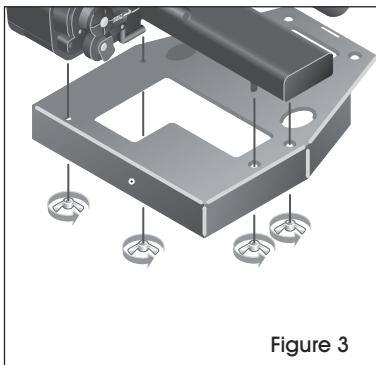

Figure 3
4. Align four rubber screws to the corresponding holes on the tray kit. Secure underneath the tray kit with four wing nuts. (See Figure 3)